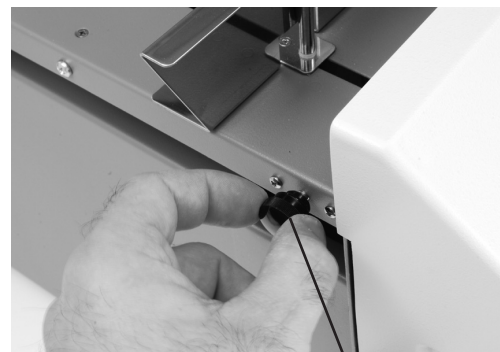

Fig. 11 Skew Adjuster
11. If the fold is skewed, remove forms, lower the infeed tray extension and turn the skew adjustment knob left or right to make corrections (Fig 11).